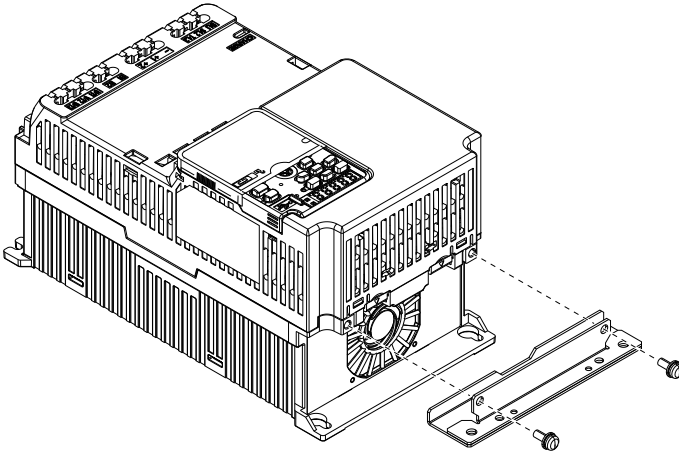

Figure 6.11 Install Bracket 1 (Top of the Drive)
1. Use the supplied screws to install bracket 1 to the top of the drive in the position shown in Figure 6.11.
2. Use the supplied screws to install bracket 2 to the bottom of the drive in the position shown in Figure 6.11.